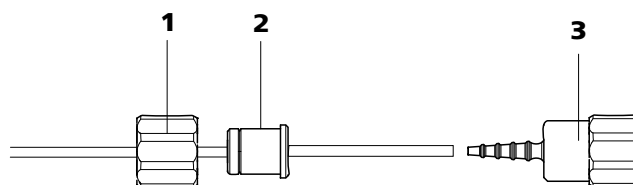

Figure 27 Install pump tubing connection without filter
- **Case B:** a 6.2744.160 pump tubing connection **without filter** (see Figure 27, page 49).